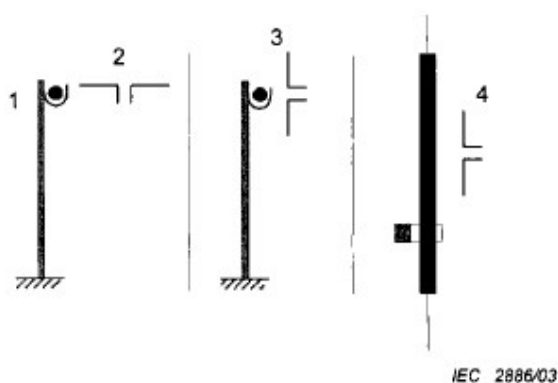

figure 2: spatial orientations of dipoles
- The system loss measurement is made with three different dipole orientations towards the cable (figure 2).